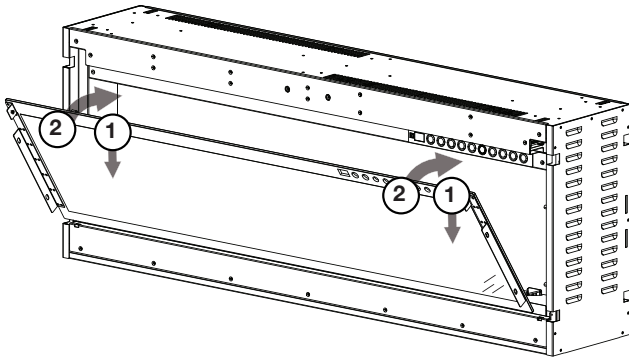

Fig. 4-1
- Have 2 people lift the glass up. Place the bottom side of the glass into the appliance and then pivot it until the glass is touching the side panel (**Fig. 4-1**).